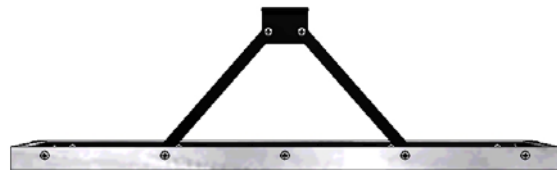

Figure 5
2. Attach the Upper bracket Support Arms to the frame using (2) of the #10-24 x 1" Frame Screws and (2) Locknuts. The Support Arms attach to the 2nd and 4th hole in the top of the frame. See Figure 5.